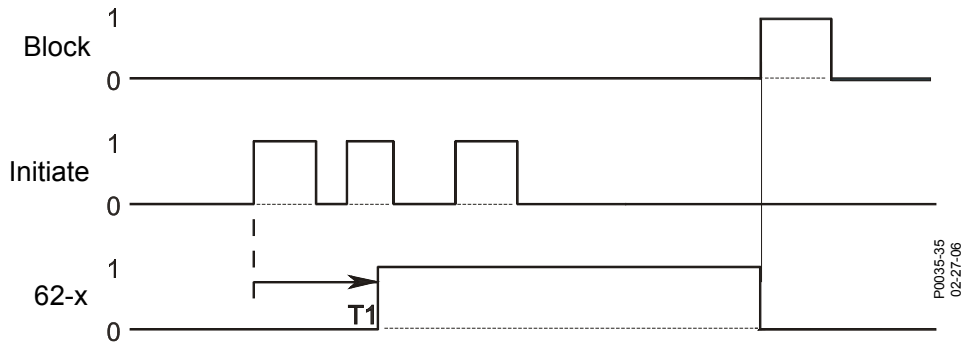

Figure 75-8. Latched Mode
- Step 9: Use the Metering Explorer in BESTCOMSP*lus* to open the Reports, Sequence of Events screen. Verify that the 62-1 timer output remained false after the first 43-1 switch action (ON), the 62-1 timer output went true 30 seconds after 43-1 switch action (ON), and 62-1 timer output returned to a false state with the 43-2 switch action (ON). Figure 75-8 illustrates the timing relationship of the 43-1/43-2 switches and 62-1 timer.